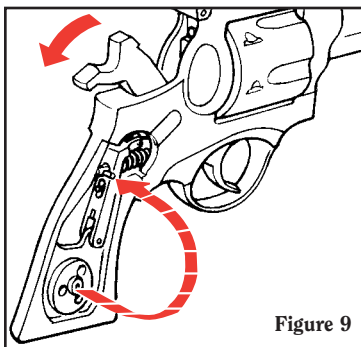

Figure 9
3. Cock the hammer. Insert disassembly pin about one half its length into the hole at the rear of the mainspring strut. (The disassembly pin is carried in the hole in the grip panel locator). Lacking a disassembly pin, any similar instrument will serve (See Figure 9).